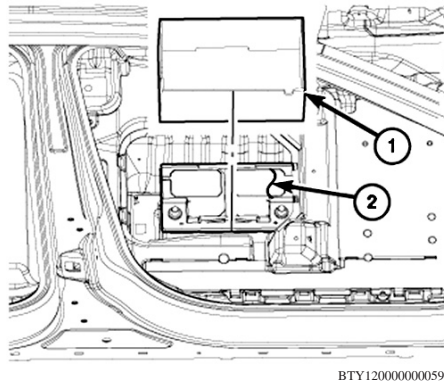

Fig. 1 Battery thermal blanket removal
7. Remove battery thermal blanket (1) from battery (2), **Fig. 1**.